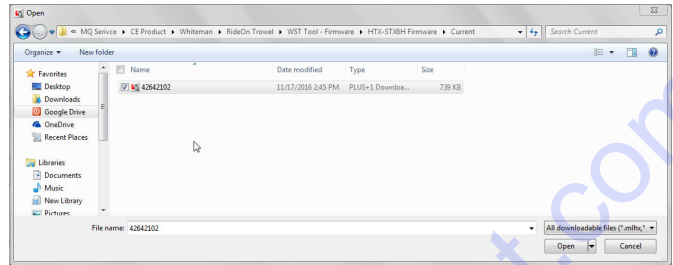

Figure 22. Select File 42642_ Screen
6. Select file 42642_*.LHX file (* represents current revision of file) and click open (Figure 22).